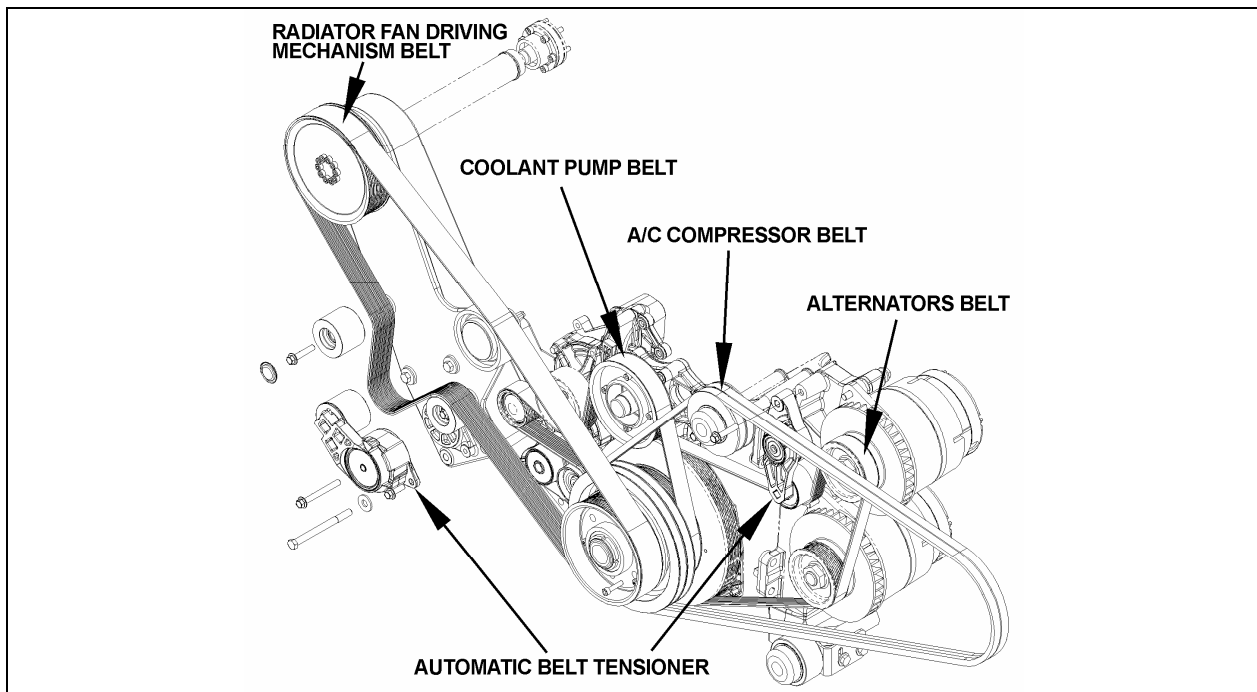

FIGURE 23: TWIN BOSCH ALTERNATORS INSTALLATION (VOLVO D13)
Install the alternators belt, the coolant pump belt, the A/C compressor belt and then the radiator fan driving mechanism belt (figure 23).
- Insert a 3/4" socket drive into the automatic belt tensioner opening (Fig. 23).